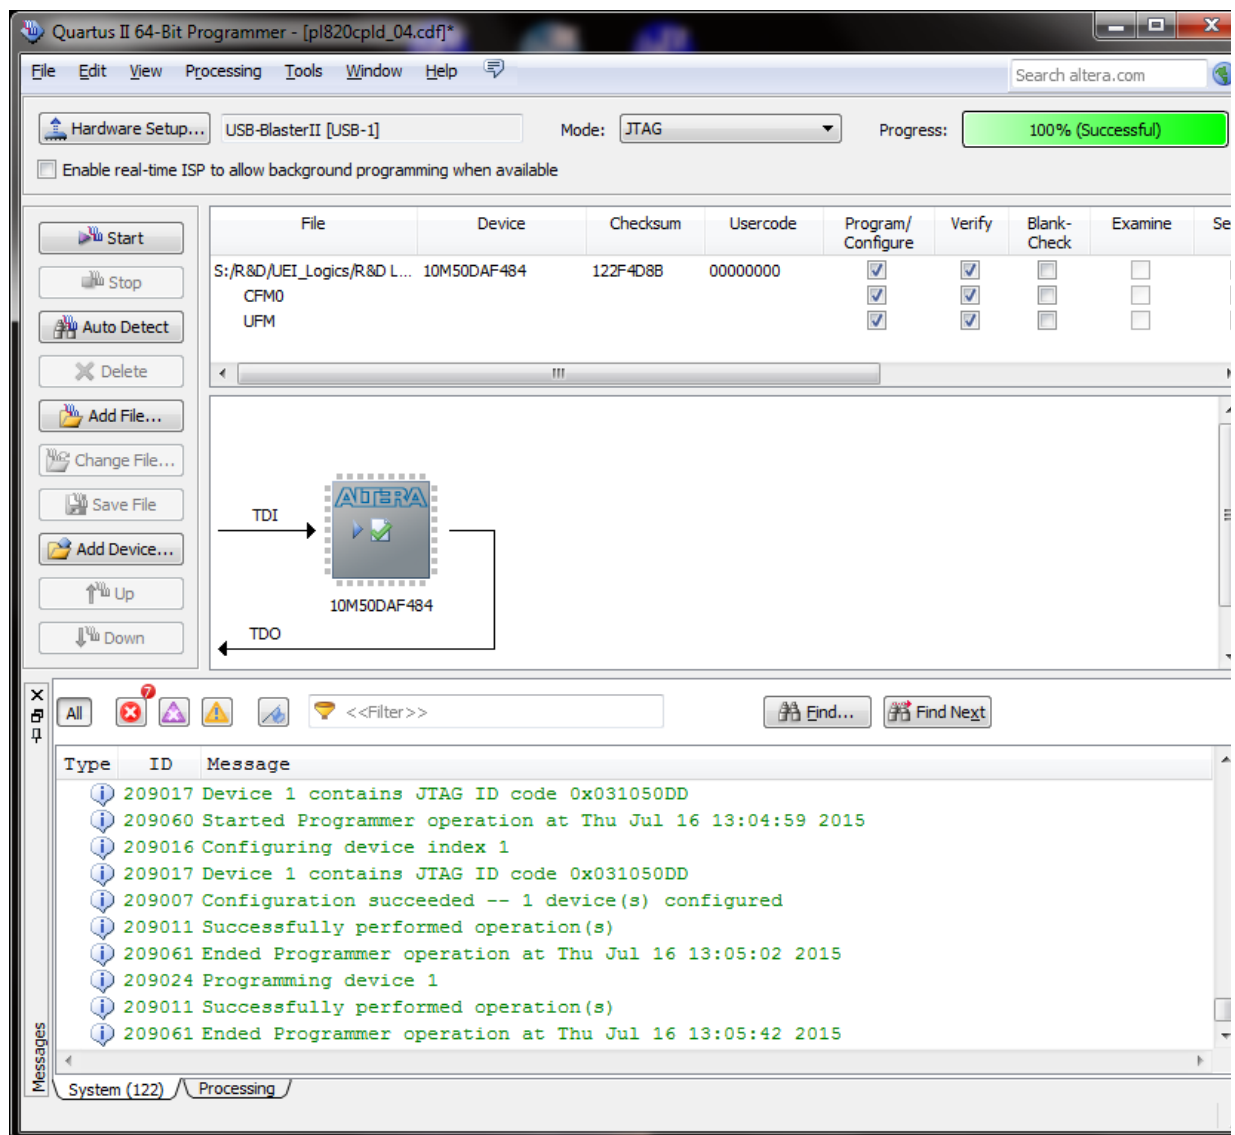

Figure 4-8 Quartus II Bit-Programmer
- STEP 6:** Set **Hardware Setup** to USB-Blaster II, and **Mode** to JTAG mode (refer to **Figure 4-8**). The Altera Programmer will automatically select the proper device (10M50DAF484 in this case).